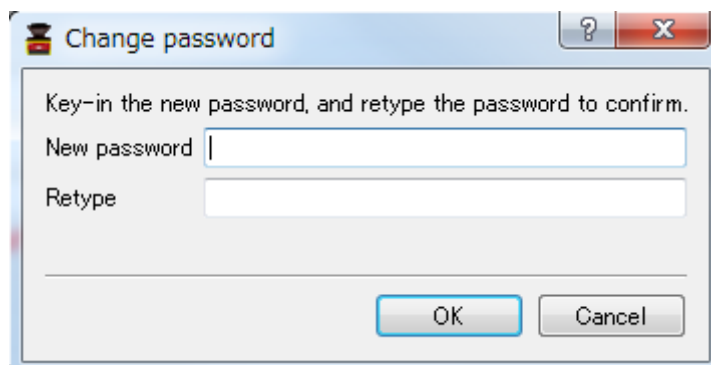

Figure 7-36 Password change
- Window as shown in figure 7-36 will be displayed.